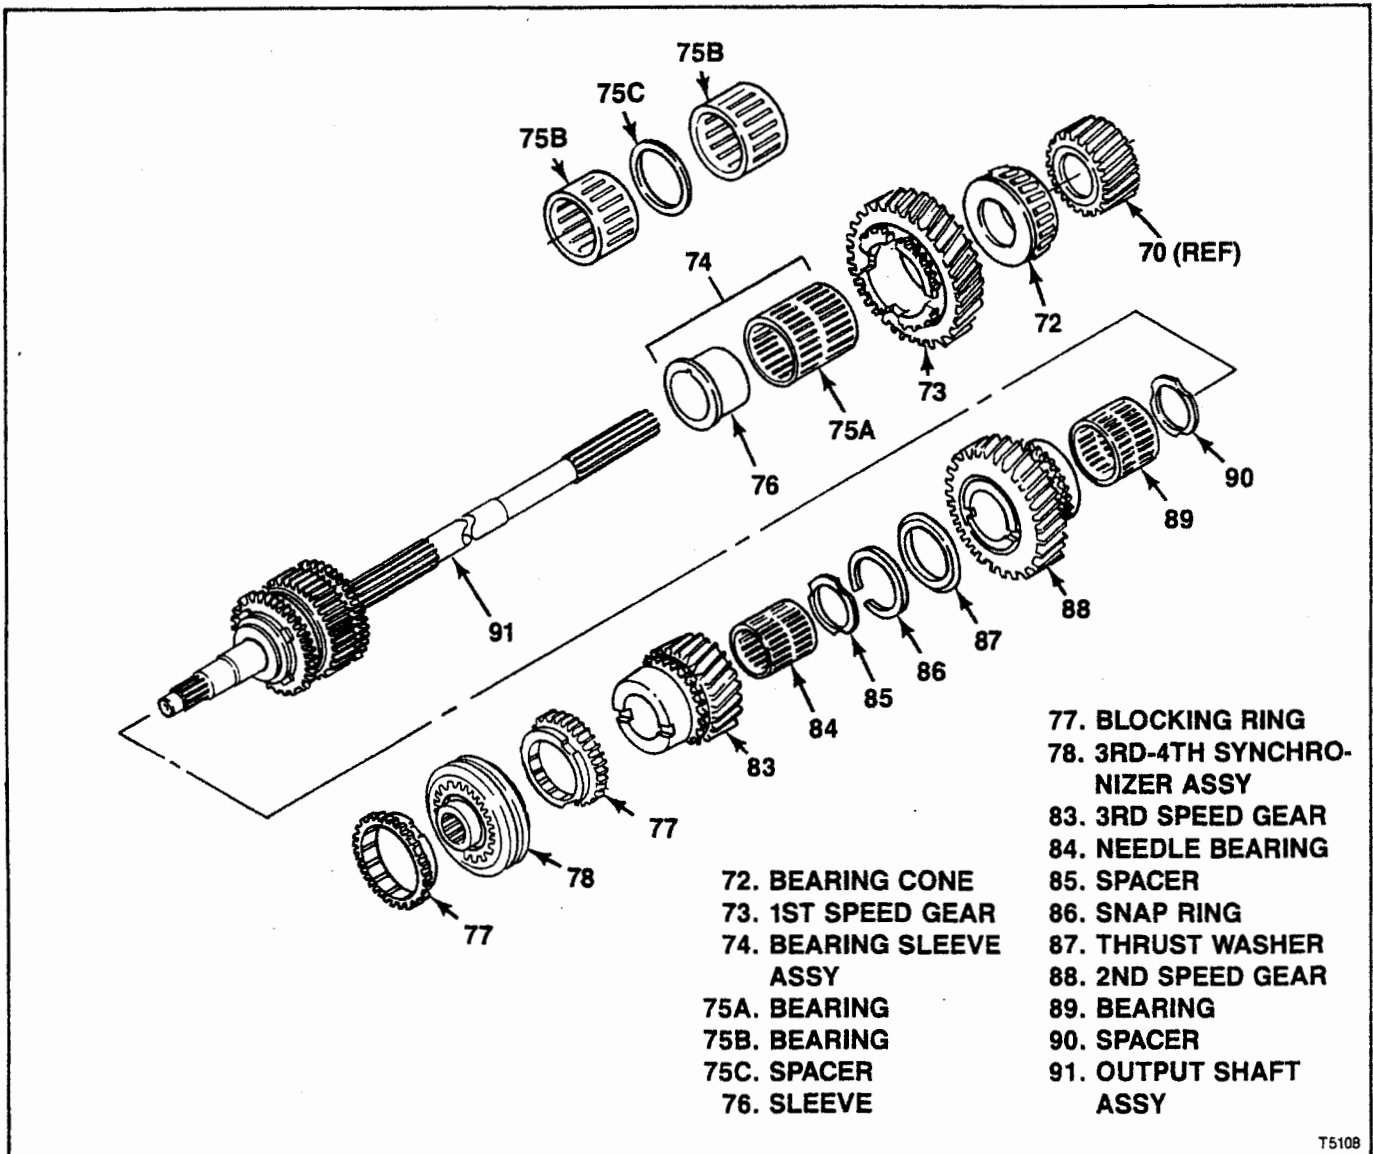

Figure 6-9. Assembly of T5 WC Output Shaft Assembly
6-11. ASSEMBLY OF T5 WC OUTPUT SHAFT GROUP. After assembly of output shaft assembly (91) as described in paragraph 6-10, proceed as follows (see figure 6-9):
- a. Install spacer (90), bearing (89), 2nd speed gear (88), thrust washer (87) and snap ring (86).
- b. Install spacer (85), bearing (84), 3rd speed gear (83) and one blocking ring (77).
- c. Install 3rd-4th synchronizer assembly (78) (as assembled in paragraph 6-6), aligning notches in installed blocking ring (77) with synchronizer inserts. Use a suitable drift that bears on synchronizer hub only.
- d. Install remaining blocking ring (77), aligning notches with inserts in installed 3rd-4th synchronizer assembly (78).
- e. At other end of assembly, install sleeve (76) and 1st speed gear bearing as follows, according to type:
- f. Install 1st speed gear (73) and bearing cone (72). Use 5th driven gear (70) and suitable drift to press bearing on cone until it is fully seated. Bearing cone is fully seated when shaft snap ring groove is accessible at outside end of 5th driven gear. Remove drift and 5th driven gear.